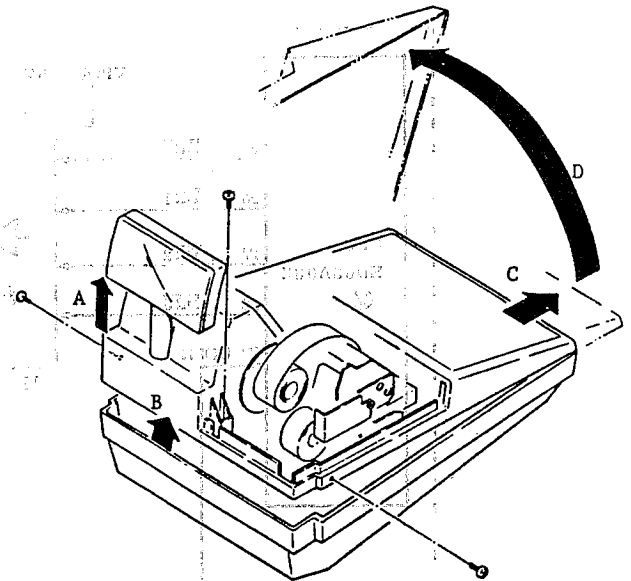

Fig.14-1
2) Removing the top cabinet (Fig. 14-1)